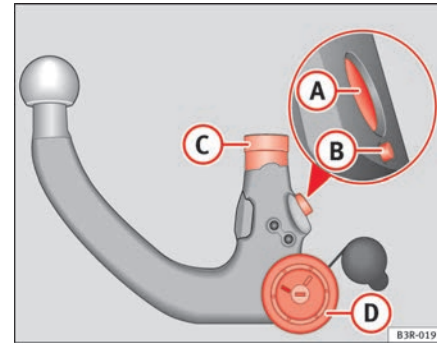

Fig. 150 Removable
- Check the locking pin **(A)**, release pin **(B)**, shaft section **(C)** and knob **(D)** ⇒ page 190, fig. 150 on the ball joint to make sure they are clean and undamaged.